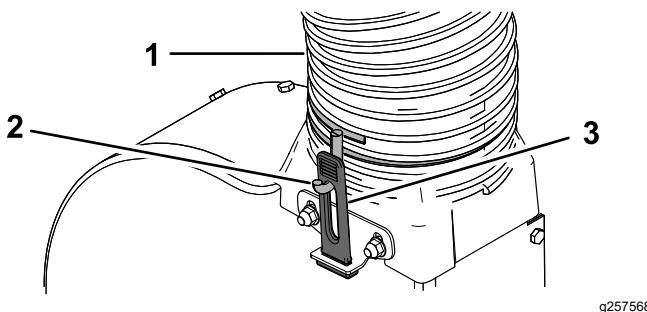

Figure 20
3. Install the hose over the blower transition so that the hose forms an approximately 90-degree bend from the hood. Adjust the orientation of the hose-clamp hooks as needed so that they align with the rubber latches, and secure the hose by stretching the rubber latches over the hooks (Figure 20).
2. Thread the hose clamp onto the other end of the new hose 2 to 3 turns (Figure 20).